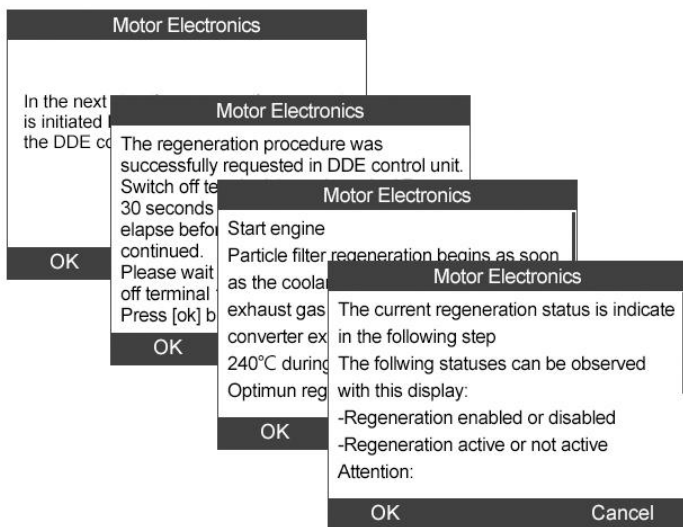
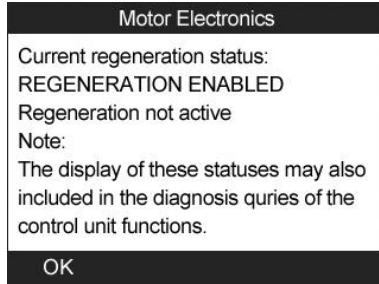

Figure 14.24
Figure 14.25
- 4) A series of instruction screens appears for users to perform the particle filter regeneration step by step. Follow the onscreen instructions and press the **OK** button.(Figure 14.24) Do this until the tool reads off the regeneration status as below.(Figure 14.25)